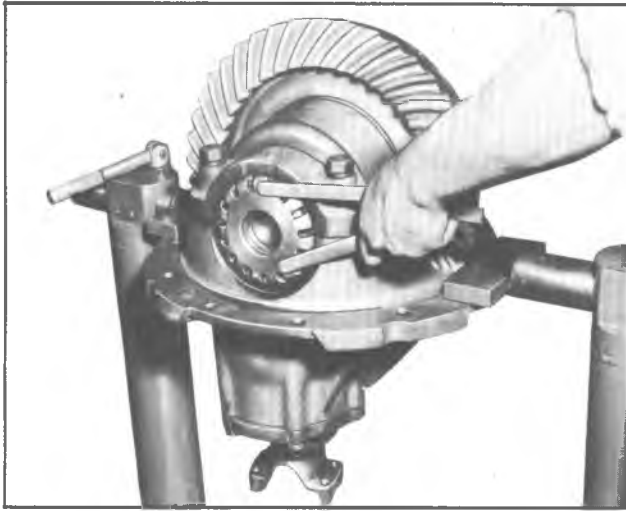

Fig. 9G—Backlash and Preload Adjustment
1. With differential bearing cap bolts loosened just enough to permit turning the bearing adjustment nuts with Tool J-0972, remove all lash between ring gear and pinion. See Figure 9G.